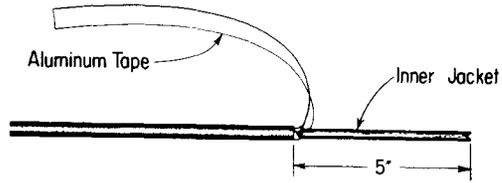

Fig. 8 — Strip Outer Jacket and Aluminum Tape
4.02 Place the 123A1A or 128A1A Protector on the wall and mark the location of the “Lug-It” on the service wire. Cut off the wire about 5-inches beyond this point. Remove the outer jacket and untwist the aluminum tape as shown in Fig. 8.